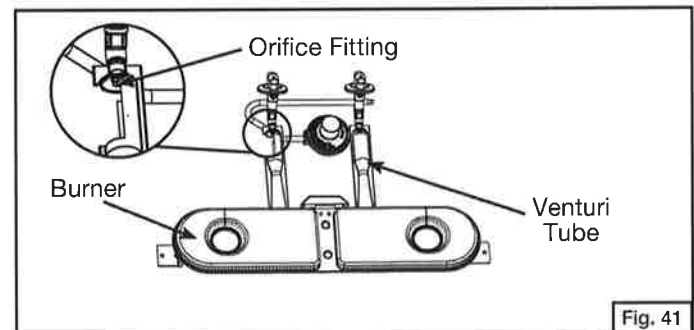
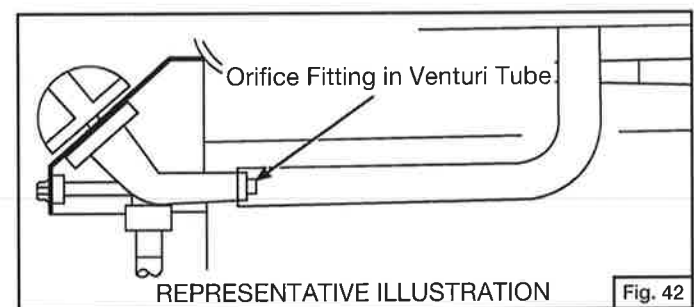

Fig. 41
Fig. 42
7. Make sure the orifice fittings are inside the venturi tube, then tighten all self tapping screws. (Fig. 41 and Fig. 42)